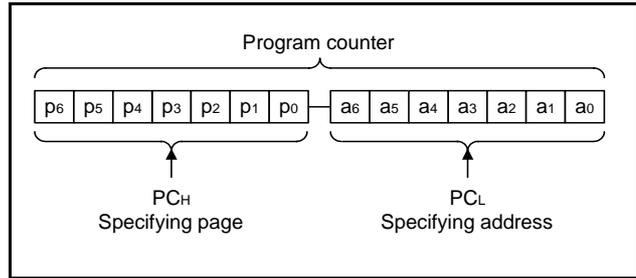

Fig 13. Program counter (PC) structure
(8) Program counter (PC)
Program counter (PC) is used to specify a ROM address (page and address). It determines a sequence in which instructions stored in ROM are read. It is a binary counter that increments the number of instruction bytes each time an instruction is executed. However, the value changes to a specified address when branch instructions, subroutine call instructions, return instructions, or the table reference instruction (TABP p) is executed. Program counter consists of PCH (most significant bit to bit 7) which specifies to a ROM page and PCL (bits 6 to 0) which specifies an address within a page. After it reaches the last address (address 127) of a page, it specifies address 0 of the next page (Figure 13). Make sure that the PCH does not specify after the last page of the built-in ROM.